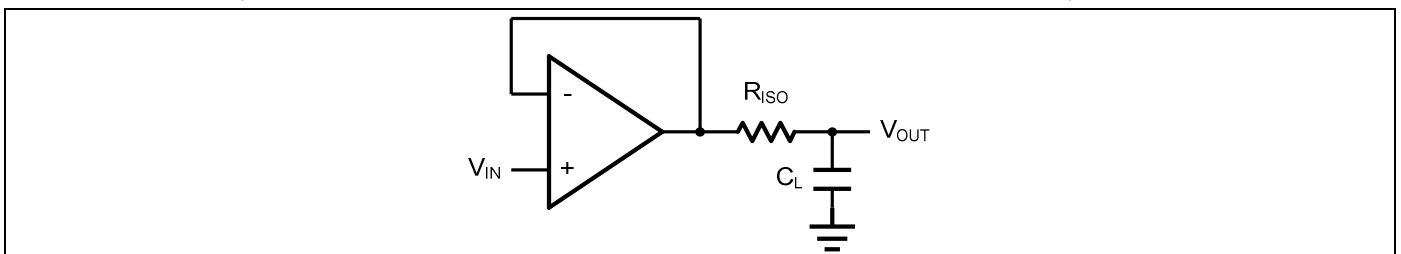
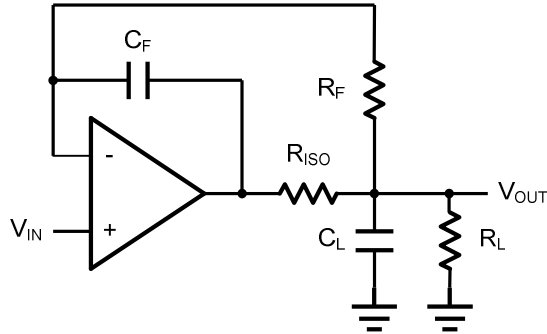

Figure 2. Indirectly Driving a Capacitive Load Using Isolation Resistor
Figure 3. Indirectly Driving a Capacitive Load with DC Accuracy
The ICL7X family is optimized for bandwidth and speed, not for driving capacitive loads. Output capacitance will create a pole in the amplifier's feedback path, leading to excessive peaking and potential oscillation. If dealing with load capacitance is a requirement of the application, the two strategies to consider are (1) using a small resistor in series with the amplifier's output and the load capacitance and (2) reducing the bandwidth of the amplifier's feedback loop by increasing the overall noise gain. Figure 2. shows a unity gain follower using the series resistor strategy. The resistor isolates the output from the capacitance and, more importantly, creates a zero in the feedback path that compensates for the pole created by the output capacitance.
The circuit in Figure 3 is an improvement to the one in Figure 2. R_{F} provides the DC accuracy by feed-forward the V_{IN} to R_{L} . C_{F}